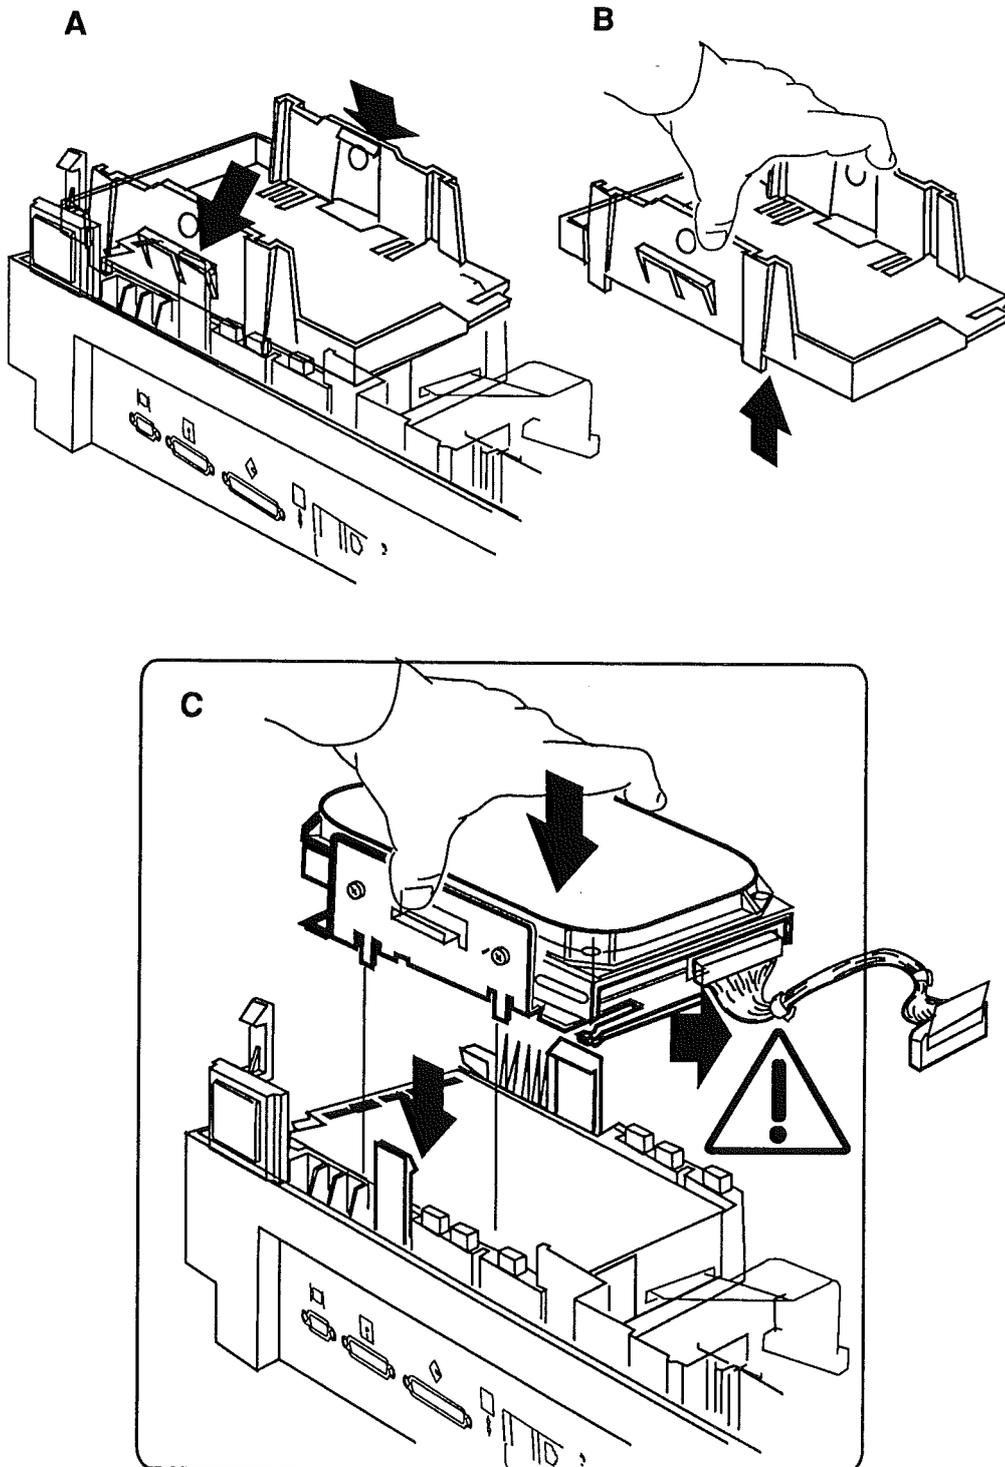

FIGURE 1
4. **Figures 1-A and 1-B.** Release the floppy retainer from the subframe by pulling the two plastic tabs away from the retainer and then lifting the holder from the subframe.
5. **Figure 1-C.** Lower the hard drive into the subframe, align the four metal tabs, and press down until the plastic latches at the front and rear snap in place.